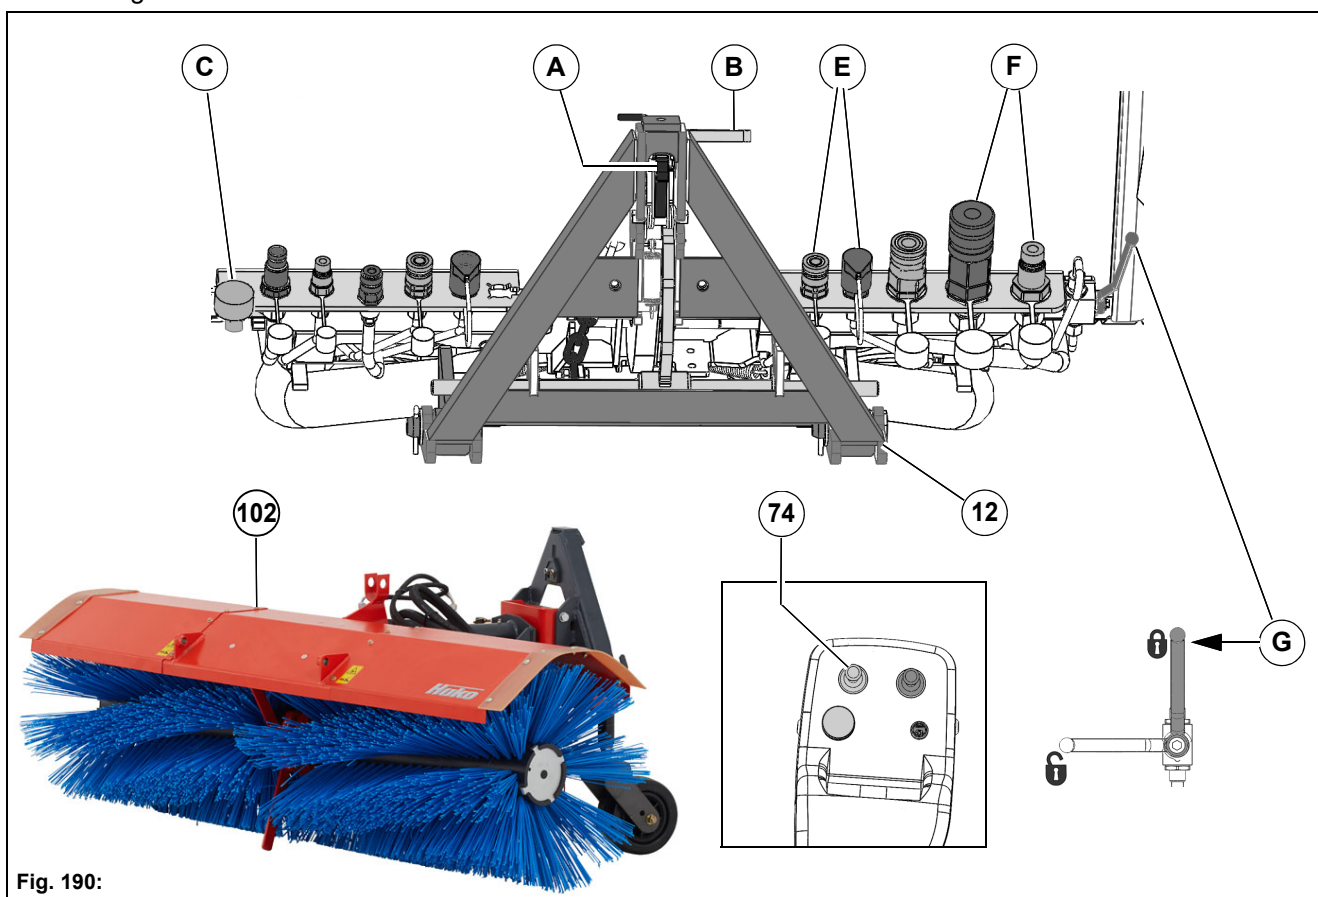

Fig. 190:
2. Unlock the locking hook **Fig. 190-A** and locking rod **Fig. 190-B** on the coupling triangle.
6. Close the valve **Fig. 190-G** for raising the suction mouth in the raised position!
- Left actuator – Supply/return = **Fig. 190-E** (optional side adjustment)
- 19-pin coding plug = **Fig. 190-C**
- Front sweeping machine hydraulic motors – Supply/return = **Fig. 190-F**